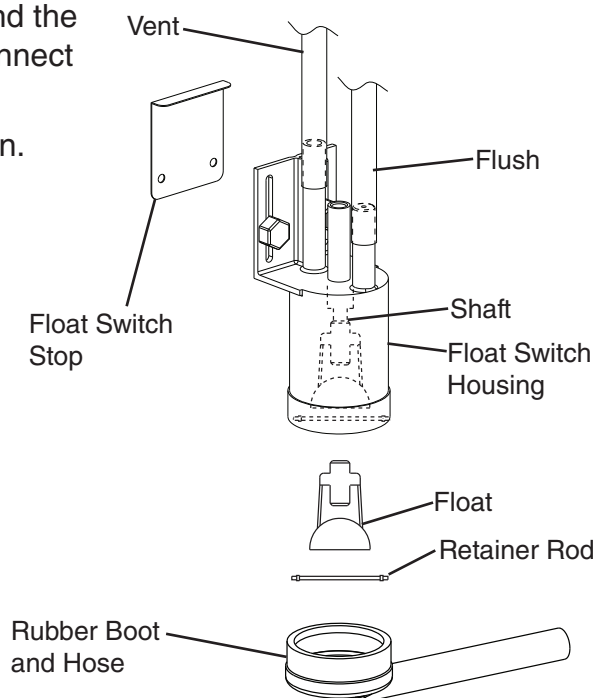

Fig. 5
- 5) Disconnect the vent tube and the flush tube from the top of FS, then remove FS assembly and remove the rubber boot from the bottom of FS assembly. See Fig. 5.